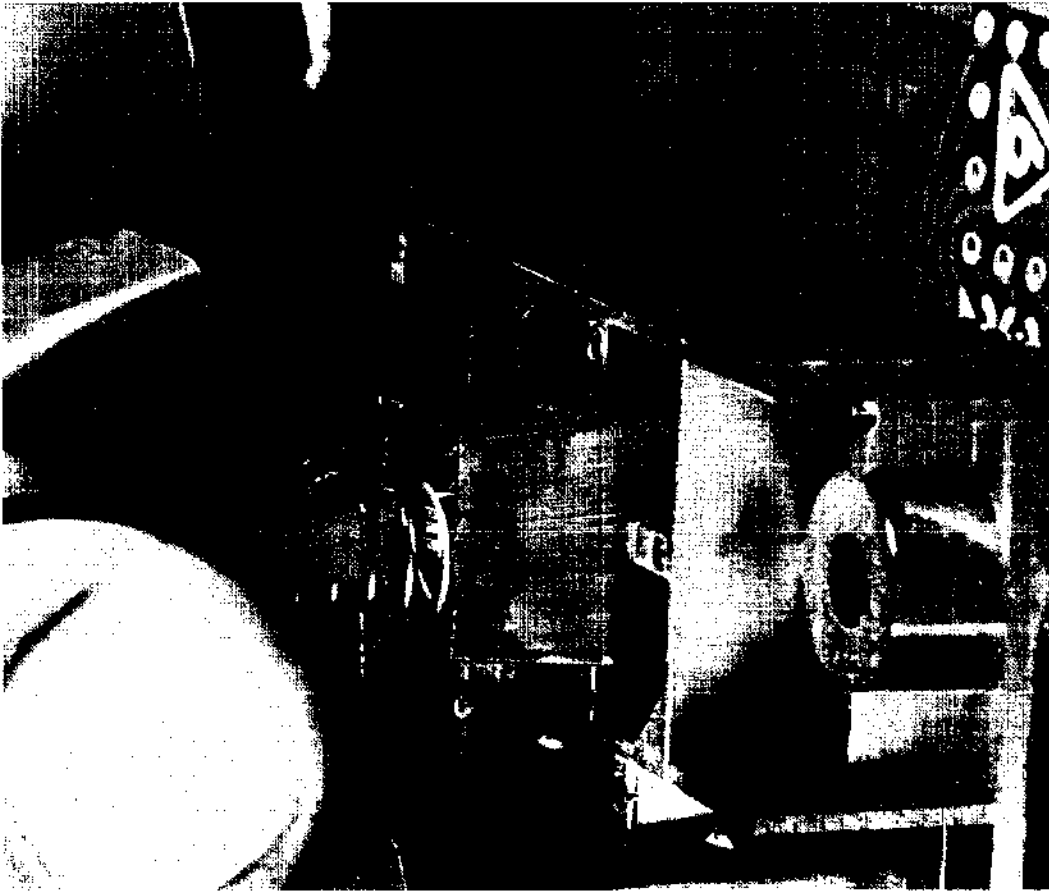

Figure 5-10
- l. Replace the plunger making sure that the bar is parallel with the contact opening. Work the plunger down slowly, separating the contacts with the crossbar of the plunger (see figure 5-10).